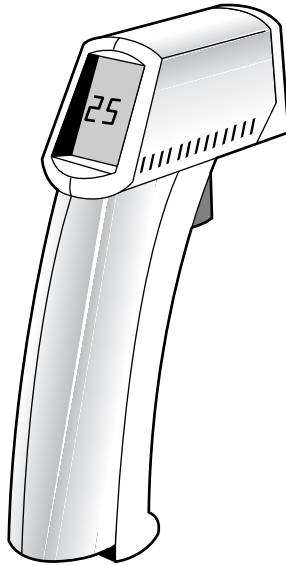

Figure 3.10 A noncontact infrared thermometer.
Another useful temperature tool is a noncontact infrared (IR) thermometer, which is a special type of sensor that can measure the temperature of an object without physically touching it (see Figure 3.10). You can take the temperature reading of an object in seconds by merely pointing the handheld device at the object you want to measure and pulling a trigger.